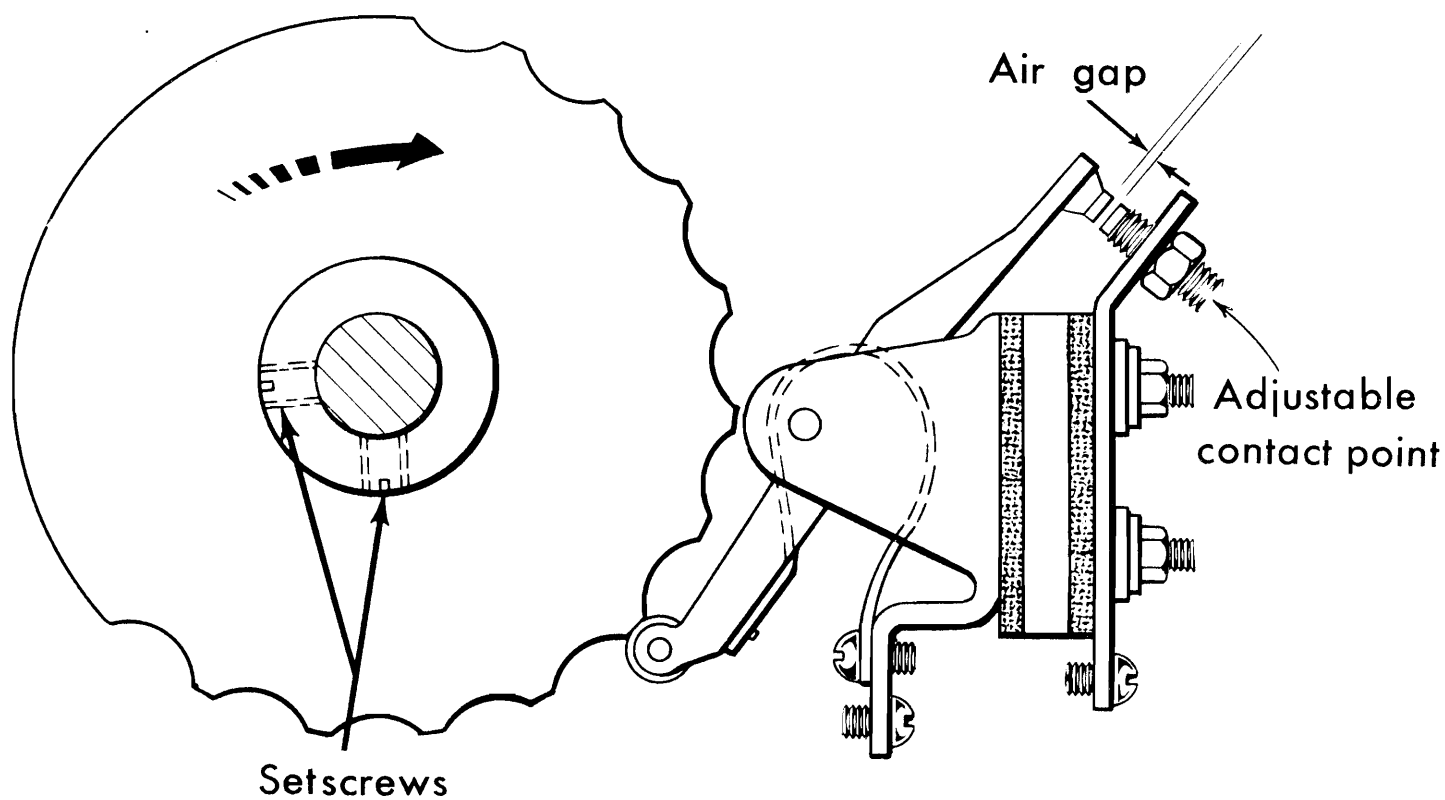

Figure 2. Rocker Arm Circuit Breaker Adjustments 3 and 4
3. With the cam follower roller on the high surface of the cam, set the contact air gap with the adjustable contact point as specified on the electrical timing chart for the machine (Figure 2). On some older machines the correct air gap must be obtained from the customer engineering manual of instruction.
4. Loosen the setscrews in the circuit breaker cam (Figure 2), and turn the cam to obtain the proper timing as specified on the electrical timing chart for the machine. Use a dynamic timer whenever possible to check the timing of the circuit breaker contacts. Be sure to tighten the setscrews if they have been loosened.